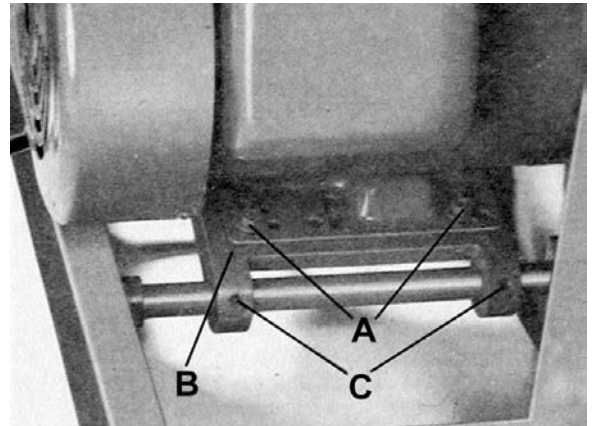
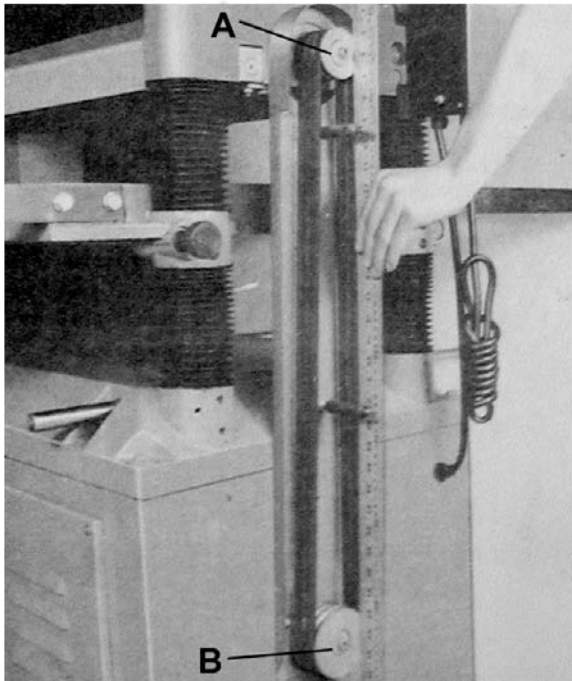
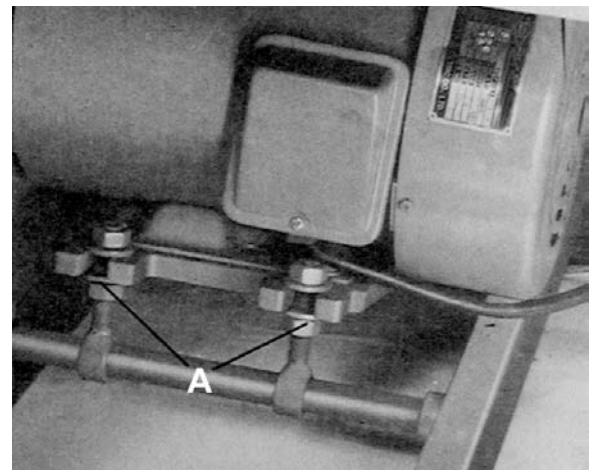

FIGURE 5
FIGURE 7
FIGURE 8
1. Assemble the motor to the motor mounting plate, as shown in Fig.5.
NOTE : It is very important that the motor be mounted to motor plate by using the mounting hardware (A) Fig.5.
3. Using a straight edge, align the motor and cutterhead pulleys as shown in Fig.7, the motor plate (B) Fig.5 can be moved for alignment by loosening the set screws (C) in the motor plate (B) as shown in Fig.5.
4. Assemble the belts to the two pulleys, as shown in Fig.7. and adjust for the proper belt tension by raising or lowering the motor plate, as shown in Fig.8, then tighten the nuts (A) Fig.8. Correct tension is obtained when there is approx. 1/4" deflection of the center span of the pulleys by using light finger pressure on each belt.